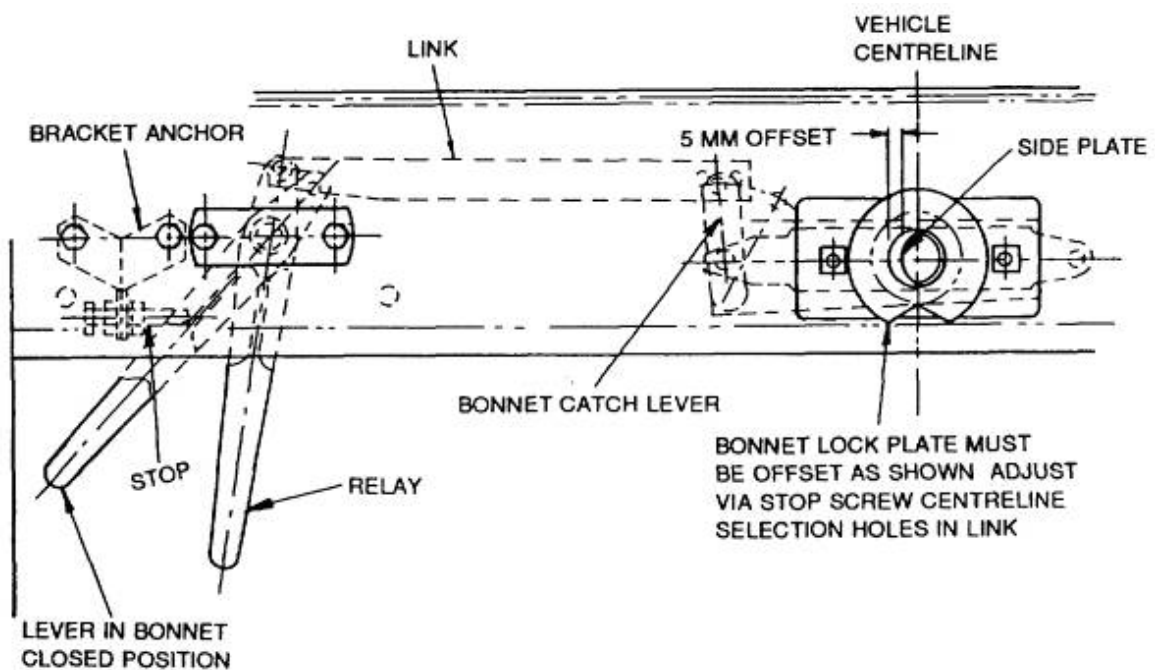

Figure 181 Bonnet Lock Slide Plate
- f. Adjust the anchor stop screw in the closed position so the bonnet lock slide plate travels 5 mm (Figure 181).